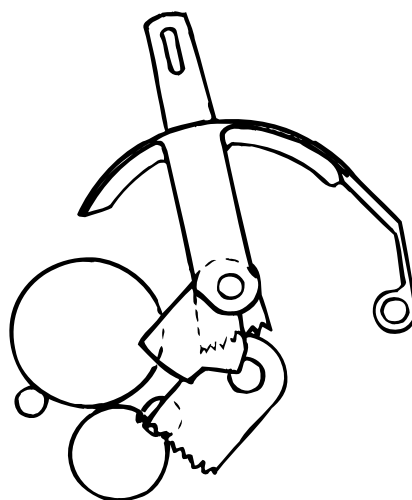

Figure 2-13
## (7) Paper clamp mechanism (See Figure 2-13.)